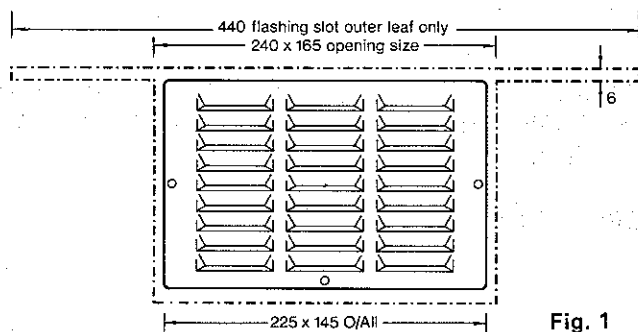

Fig. 1
- (i) Cut 100 mm long slot on each side at top of the prepared opening—see figure 1.